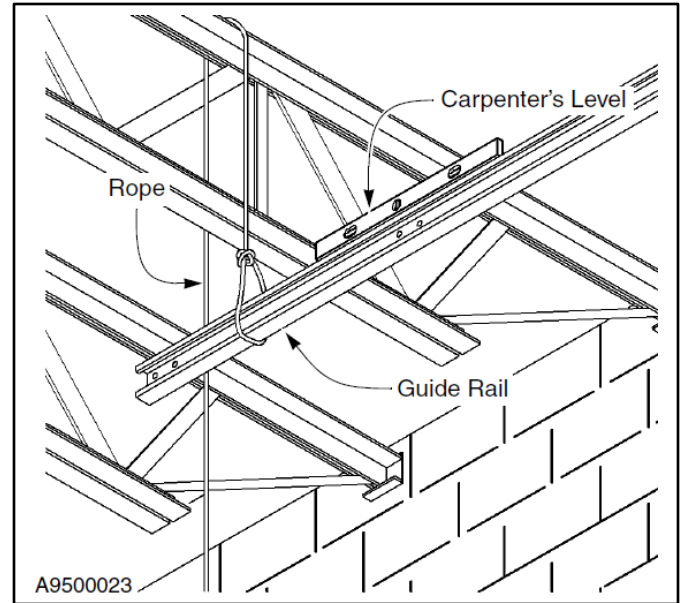

Figure 50
3. Support the end of the guide rail with rope or a mechanical device. Place a carpenter's level on top of the guide rail and secure the guide rail in a level position. (See Figure 50.)